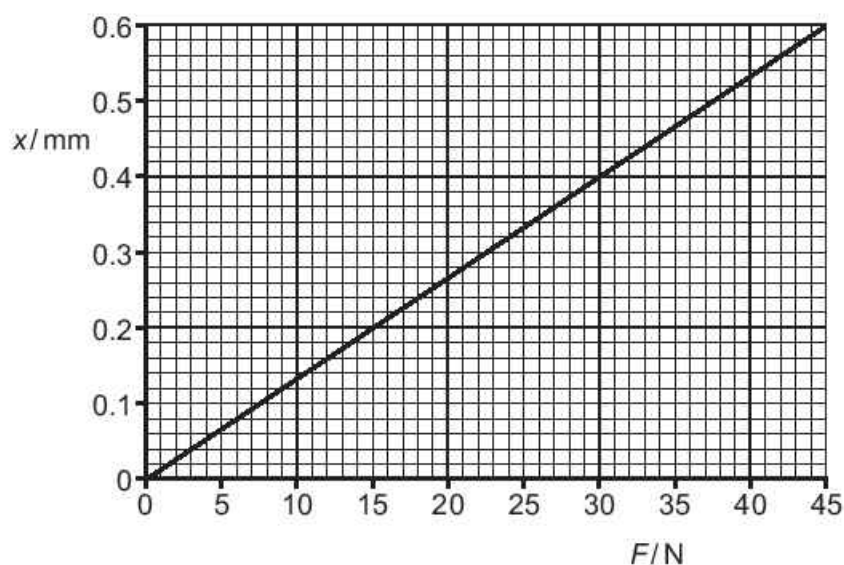

Fig. 5.1
- 30 One end of a wire is attached to a fixed point. A force F is applied to the wire to cause extension x . The variation with F of x is shown in Fig. 5.1.
- (a) State the name of the law that describes the relationship between F and x shown in Fig. 5.1.